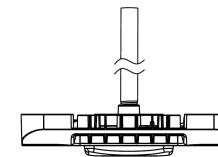
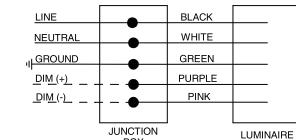

FIGURE 5
FIGURE 6
- Connect the wires as shown (Fig. 6) and then secure fixture to the ceiling with the 3/4" NPT Pendant (Fig. 5). If the dimming leads are not used, cap off each of the these wires.